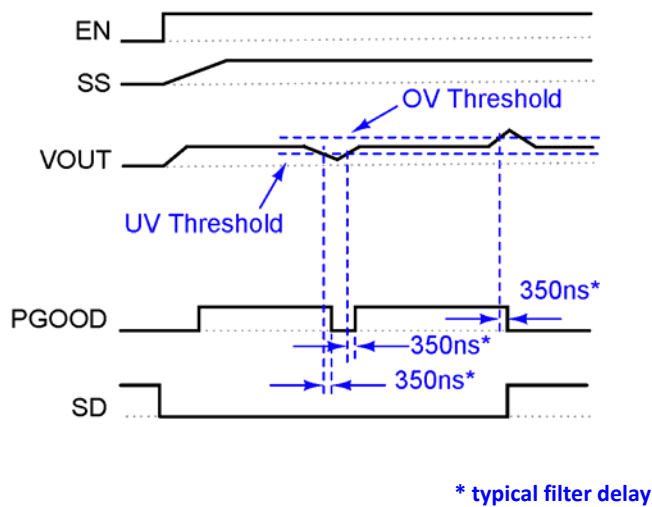

Figure 24: Under/Over Voltage Monitor
The IR3473 monitors the voltage at the FB node through a 350ns filter. If the FB voltage is below the under voltage threshold, UV# is set to LOW holding PGOOD to be LOW. If the FB voltage is above the over voltage threshold, OV# is set to LOW, the shutdown signal (SD) is set to HIGH, MOSFET gates are turned off, and PGOOD signal is pulled low. Toggling VCC or EN will allow the next start up. Figure 24 and 25 show PGOOD status change when UV/OV is detected. The over voltage and under voltage thresholds can be found in the Electrical Specification section.